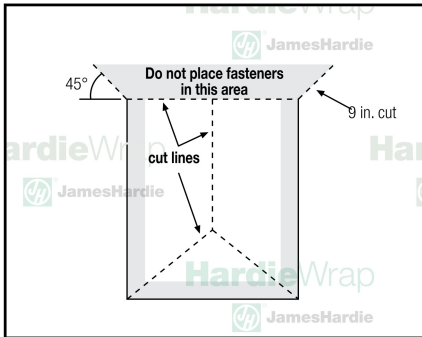

figure 3
**Step 1:** Use the inverted "Y" cut at rough window and door openings. Do not place fasteners within 9 in. of the rough opening, door or window heads. This area should not be fastened to allow for proper flashing installation. At the top corners of the rough opening, cut the weather barrier at 45° to extend 9 in. past the joint (fig. 3).